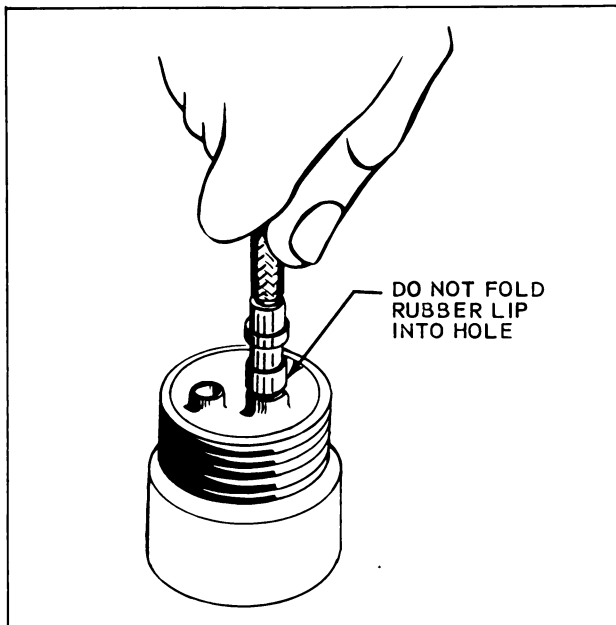

Figure 3-52. Reinstalling Contacts in Resilient Inserts
f. Reinstall large contacts by pushing them through rear of insert until seated. Use alcohol as a lubricant, if necessary. Install each contact, when cool, before proceeding to solder next contact. This will help avoid errors. Use a bakelite screwdriver to aid in seating contacts. (See Figure 3-52.)